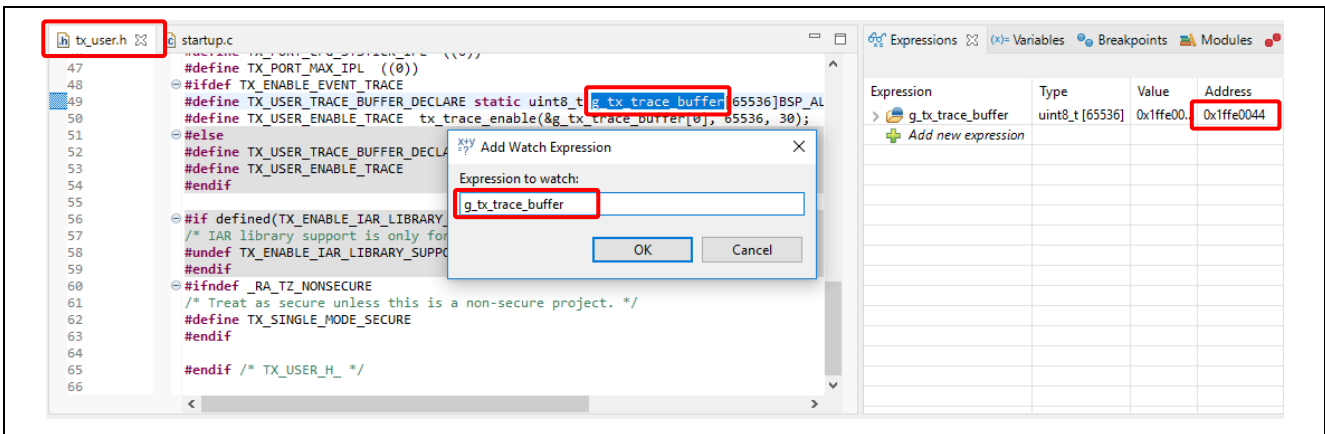

Figure 16. Find the data buffer address
* In Figure 16, it is allocated in the address **0x1ffe0044**.